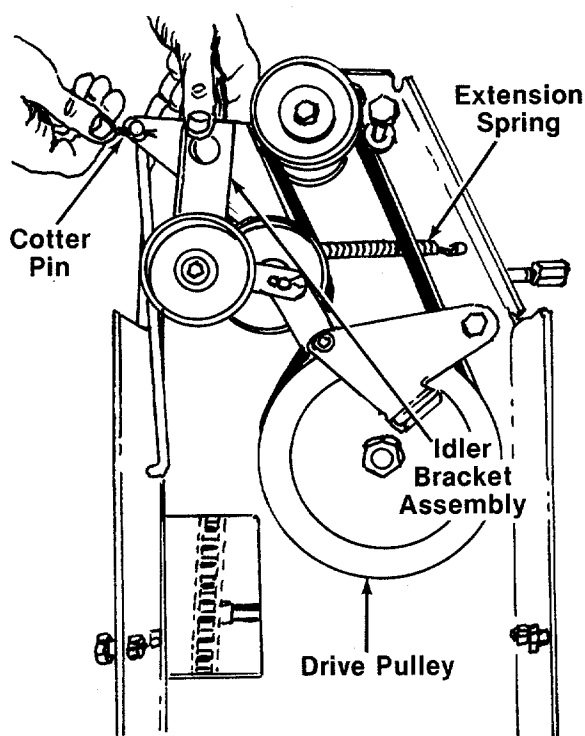

FIGURE 32.
- a. Remove the cotter pin which holds the linkage rod to the idler bracket assembly. See figure 32.
- b. Unhook extension spring from the engine plate. See figure 32.